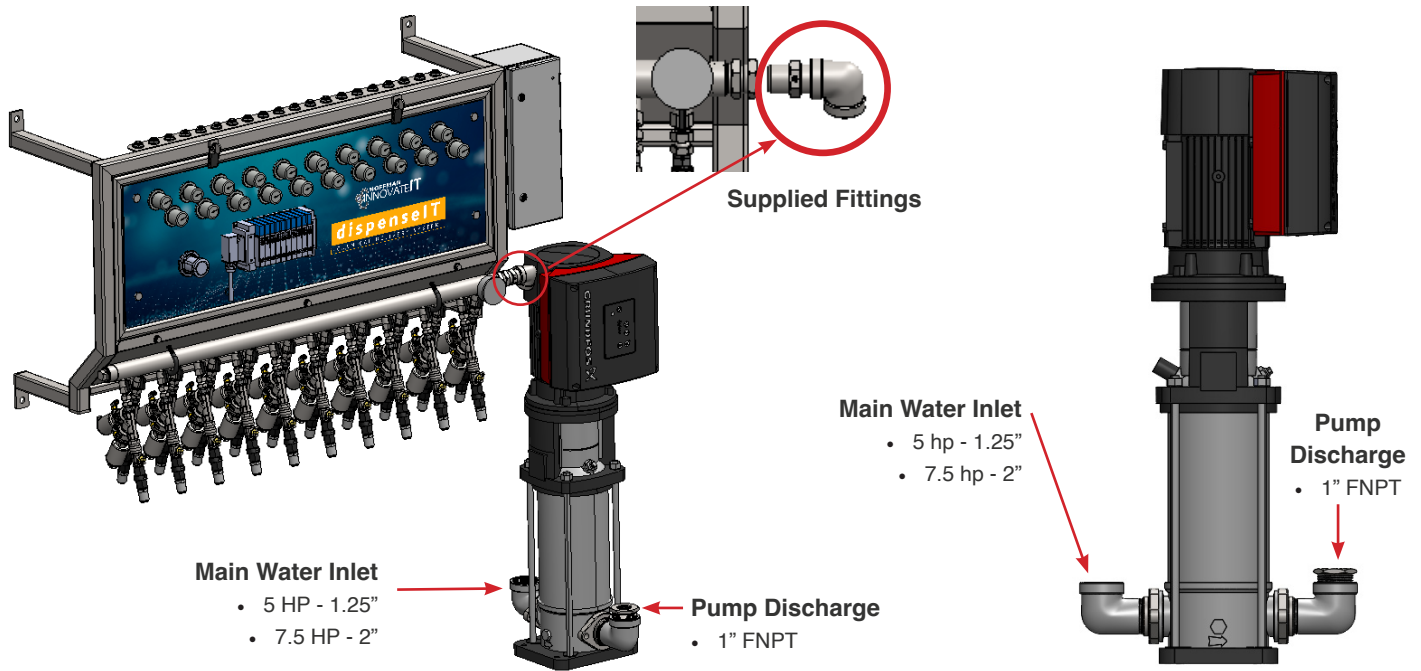

Fig. 3.2.1 - 1 - Water lines connections
2. Install water feed line to the inlet side of the pump using appropriately sized fittings based on pump size (Fig. 3.2.1 - 1, following page).